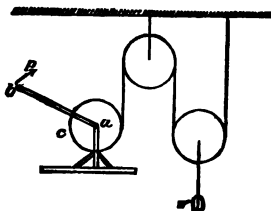

FIG. 44.—PULLEY AND WINDLASS.
5. In the combination of pulley and windlass of Fig. 44, ab is 2 feet, ac 6 inches. A power of 80 pounds is applied at b : how much weight can be lifted?